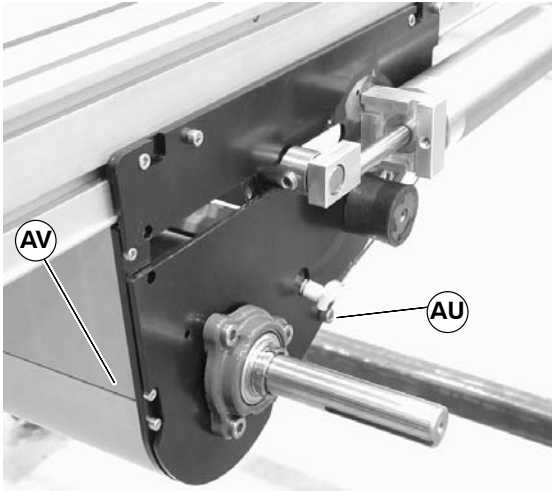

Figure 23
- Temporarily support the tensioning roller guard (AV of figure 23). Remove screws (AU of Figure 23) on both sides of center drive and remove tensioning roller guard (AV of Figure 23 and 24).